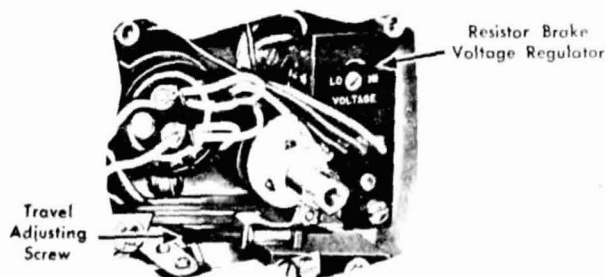

Fig. 2 — Interior of motor actuator showing travel adjusting screw.
**NOTE:** The rack assembly movement can easily be changed from  $\frac{1}{2}$ " to  $\frac{7}{8}$ " by adjusting the motor actuator travel limits (see Fig. 2). Since the valve stem travel varies with valve size and type, this feature allows the use of one motor actuator on almost any valve body.
5. Remove back cover from motor actuator and refer to the "limits of travel adjusting screw" (Fig. 2). If, from step 2, the available valve stem travel was found to be less than  $\frac{7}{8}$  inch, turn travel adjusting screw clockwise approximately 8 complete turns.